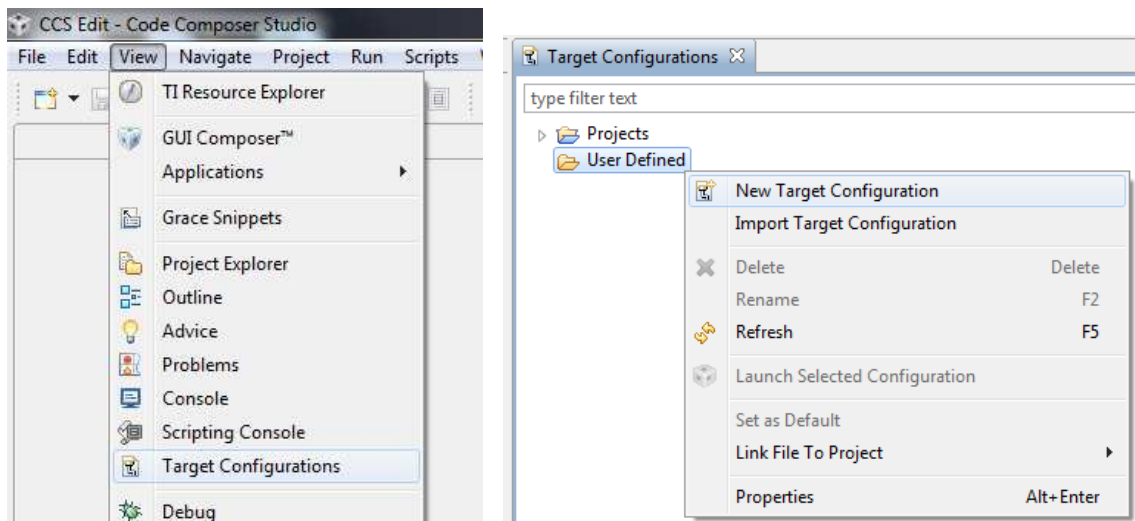

Figure 5. Target Configuration
- Select **View** → **Target Configuration** (Figure 5, left side of image)
- Right click on the **User Defined** folder and select **New Target Configuration** (Figure 5, right side of image)